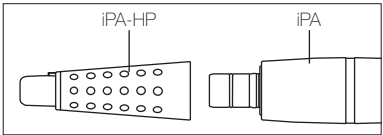

Fig. 4
- 3) Remove the handpiece tip (iPA-HP) from the motor (iPA). (Fig. 4)